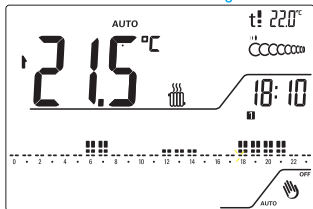
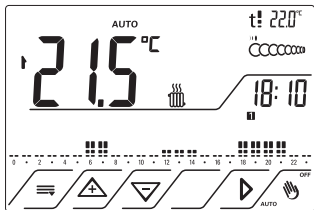

Fig.2
Fig.9
3.1 Starting from Stand-by, fig.2, press  OFF. Fig.9
4.2.1 Start display by pressing . Fig.9